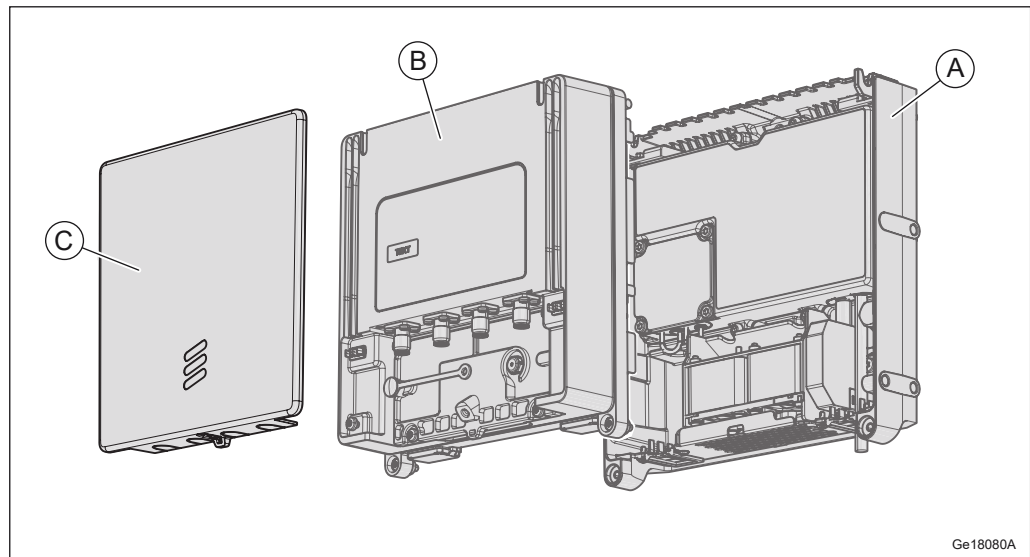

Figure 11 Radio Components, Single Radio
(1) The Support has several variants. An example is shown in Figure 11.